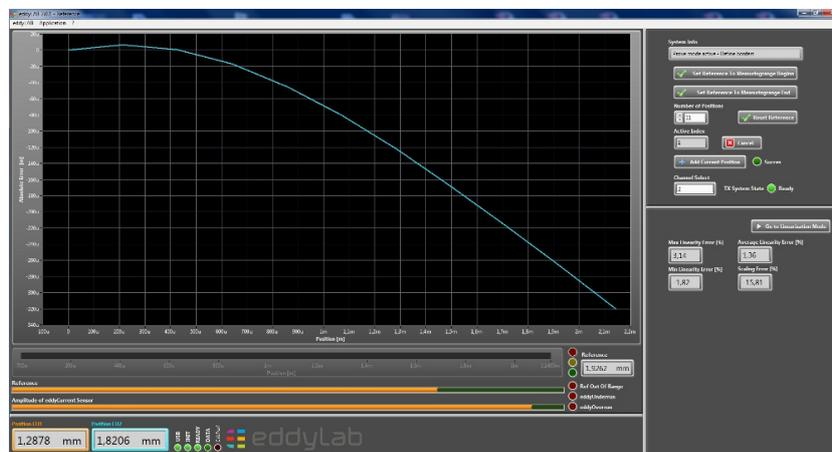

Figure 11: Error chart of an eddy current sensor measuring on a target other than calibrated.
**The prove mode** is used to show up the absolute error over a user-defined measuring range. This feature admits a traceable calibration. First of all - the procedure to prove a sensor requires the definition of the beginning and the end of the measuring range and the desired number of positions to be proved (Buttons: Set Reference To Measuringrange Beginn; -End; Number of Positions). Based on this definition eddylab suggests a set of equidistant positions that need to be taken over with the 'Add Current Position' button. The new position will only be added if it is located within a certain range based on the generated positions. If the traffic lights indicate orange or green a position can be taken over. Once finished a chart with the absolute error is shown (see figure 11).